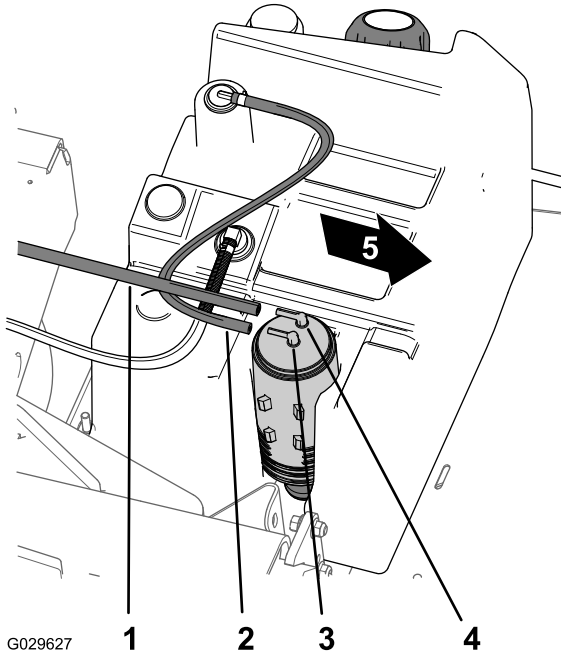

Figure 44
- Remove the vacuum hose from the fitting on the carbon canister marked Purge (Figure 44).
- Remove the fuel-tank hose from the fitting on the carbon canister marked Fuel Tank (Figure 44).
8. Assemble the vacuum hose onto the fitting on the carbon canister marked Purge and the fuel-tank hose to the onto the fitting marked Fuel Tank (Figure 44).